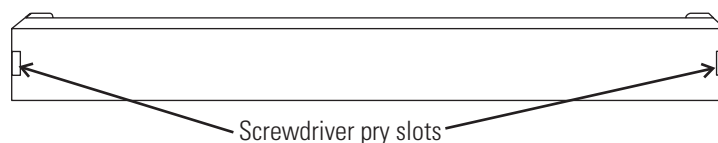

Figure 5-9. Front Cover Plate Below the Door
2. Remove the front cover plate below the door. There are small flatblade screwdriver pry slots on each end of the plate to help remove it. See Figure 5-9.